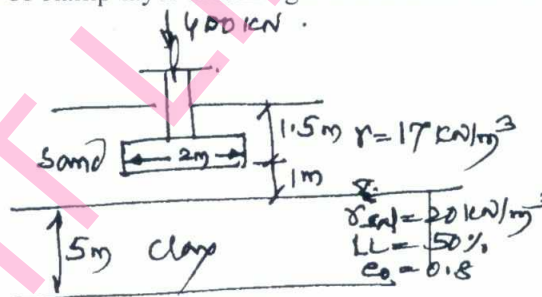

Fig.Q.7(b)
- b. A square footing 2m side as shown in Fig.Q.7(b) carries a load of 4000kN. Calculate the settlement at the centre of clamp layer assuming a distribution of 2V:1H.